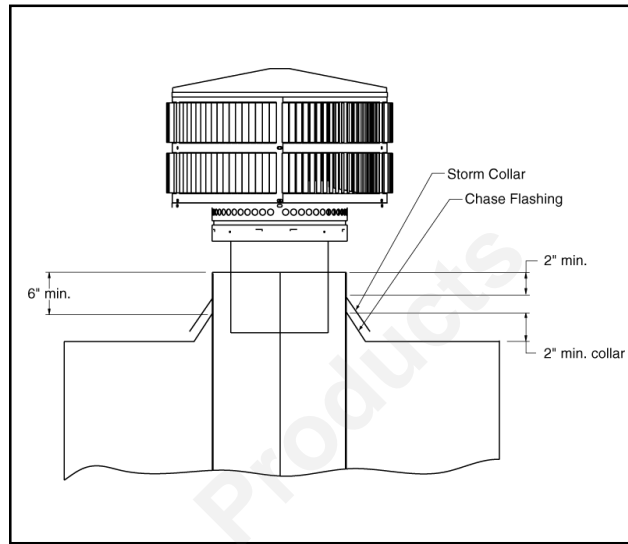

Figure 22 - Installing a TR344/NATR344 Round Termination Cap
- a. Install the chimney sections up through the chase enclosure. When using a TR344/NATR344 round termination cap, the uppermost top section of pipe must extend 6" above the top of the chase collar to allow installation of the storm collar and termination cap. See Figure 22.